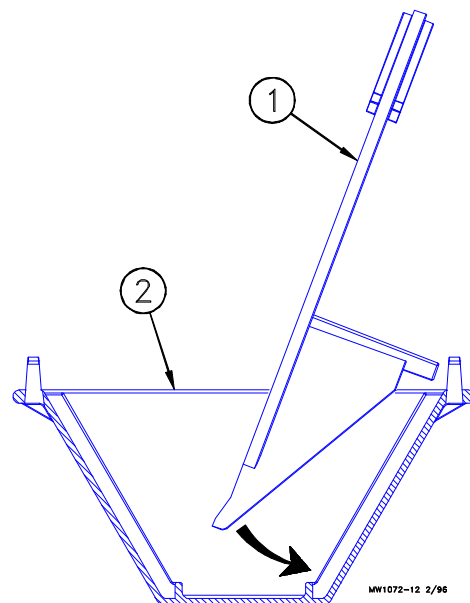

Figure 2: Mounting Bracket Installation
1. Install the Mounting Bracket in the lock on the top of the Mini Drinker Bowl, as shown in Figure 2.